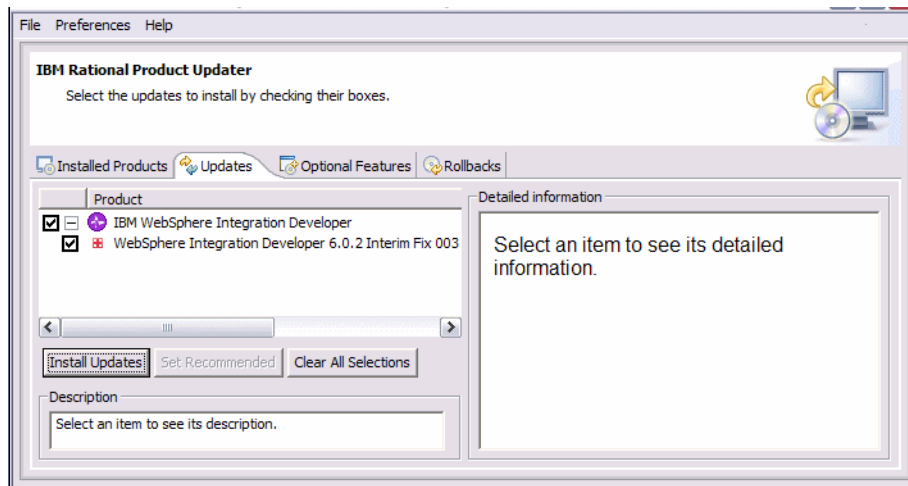

Figure A-8 Rational Product Updater
- ▶ The Rational Product Updater opens. Select *IBM WebSphere Integration Developer* and click *Find Updates* (Figure A-8).